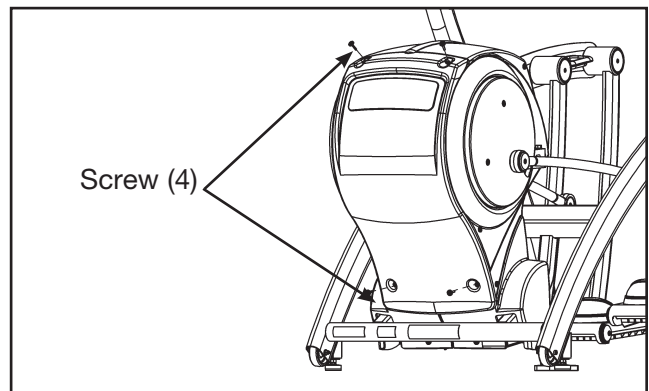

Figure 2
- A. Turn the main power switch to the off (0) position and unplug the power cord from the power outlet.
- A. Using a Phillips head screwdriver, remove the four screws and four washers securing the access cover. See Figure 2.